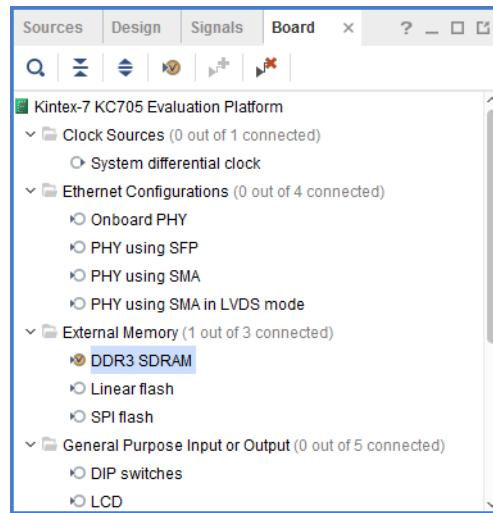

Figure 5-14: Run Connection Automation Dialog Box to Connect Memory IP to MicroBlaze
4. At the top of the design canvas, click **Run Connection Automation** to connect the Memory IP core to the MicroBlaze processor. The Run Connection Automation dialog box opens, as shown in Figure 5-14.